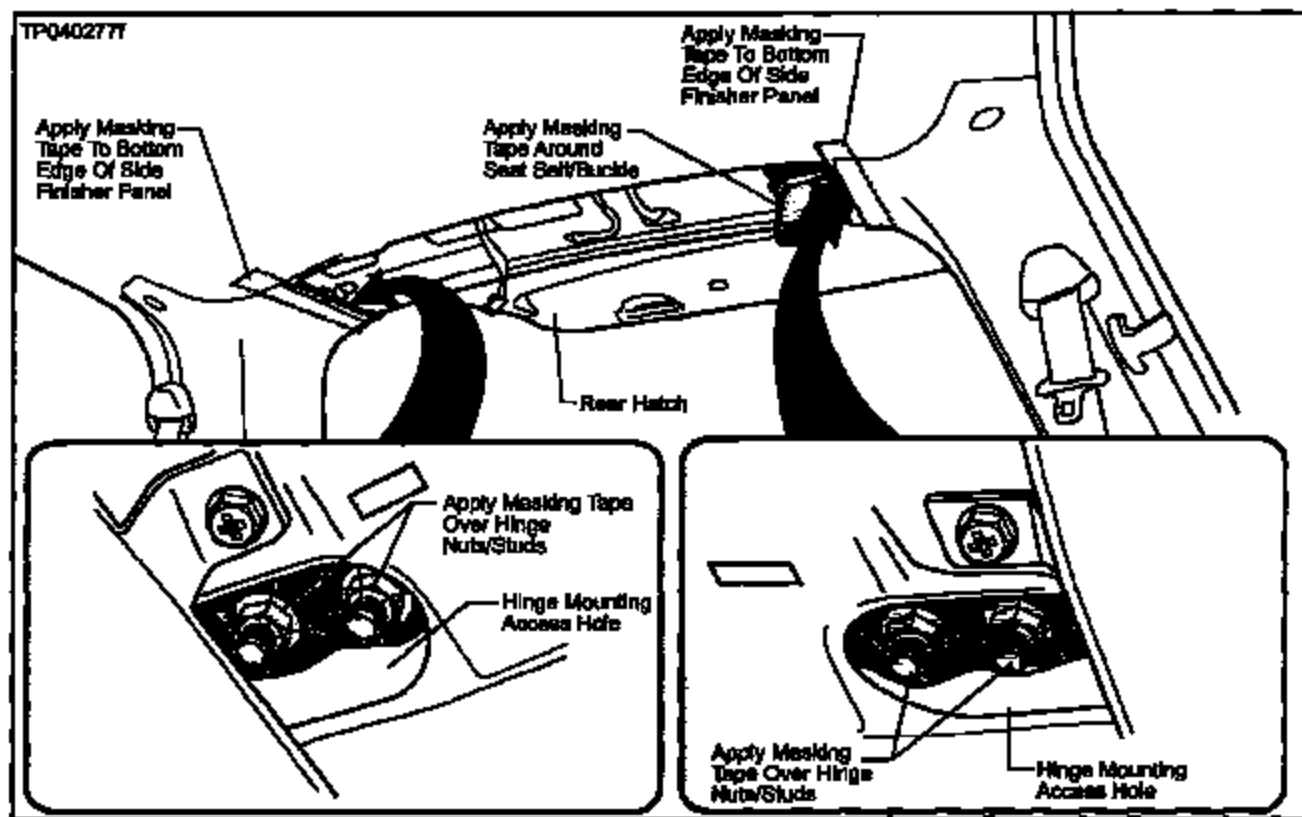

Figure A4
4. Going through the Hinge Mounting Access Holes (see Figure A4), use a clean shop towel to wipe the area around the Nuts/Bolts to remove any dust, dirt, and loose foreign material.
- To the bottom edges of the Side Finisher Panels (see Figure A4).
- Over the Hinge Nuts/Studs (see Figure A4).
- Around the Seat Belt and Buckle (see Figure A4).